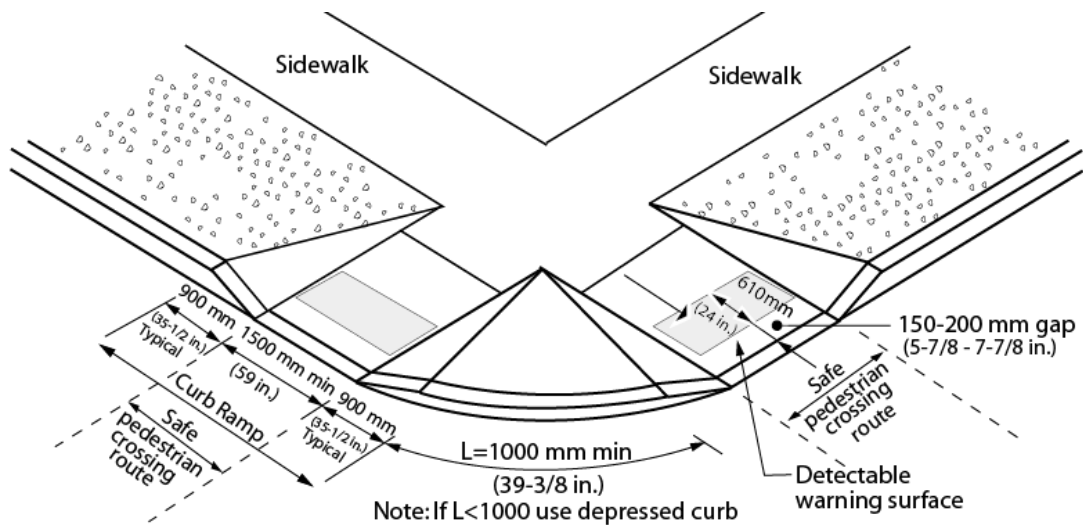

Figure 114: Standard Curb Ramp
- Standard ramp excluding flared sides: Minimum width of 1500 mm (Figure 114)
- Minimum width: 1000 mm (Figure 114)